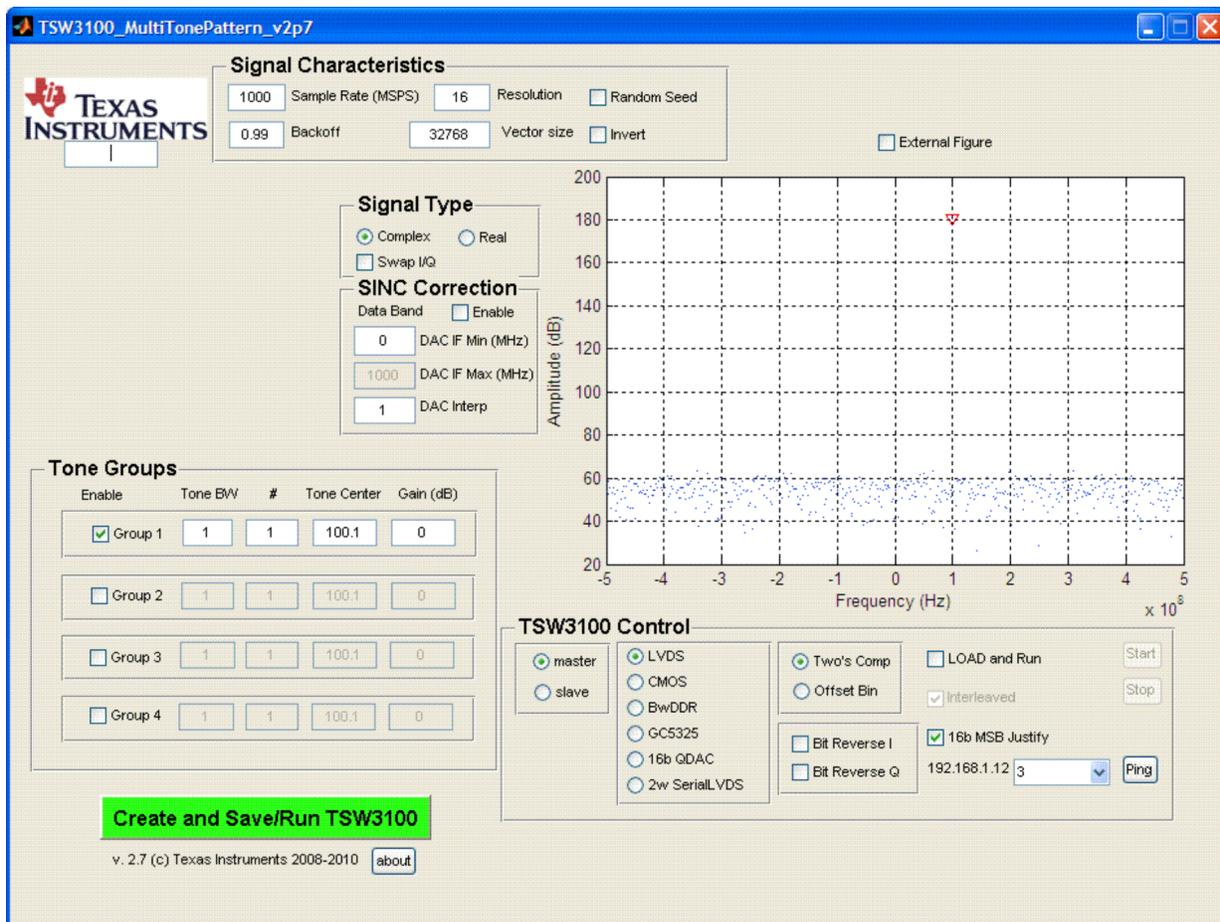

Figure 15. TSW3100\_MultiTonePattern Graphical User Interface
Figure 15 shows the TSW3100\_MultiTonePattern Software GUI generating a pattern by using the default settings and clicking the **Create and Save/Run TSW3100** button.
When checked, a separate window displays the amplitude of the pattern in dB vs. frequency. For real patterns, only the positive frequency amplitudes displays. A red, inverted triangle (Figure 15, Figure 17, and Figure 18) identifies the largest amplitude tone. If there are multiple tones with the same power, the lowest frequency is identified with the triangle.
**Overview:** To set up four tone groups (Figure 16), change the sample rate to 500 MHz, and keep the other parameters at the default values displayed in Figure 15. To generate the pattern, click the *Create and Save/Run TSW3100* button. The amplitude spectral plot for this pattern displays in Figure 17. The spectra for tone groups three and four do not show the individual tones, because the spacing is less than the pixel spacing for the display. The standard MATLAB figure control (magnifying glass) can be used to zoom in on the displayed tone group and see the individual tones (Figure 18).